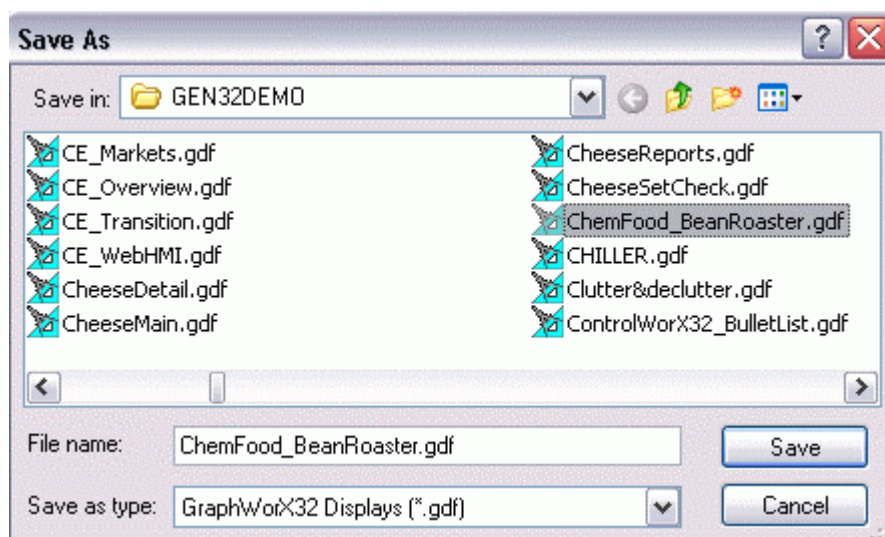

Figure 4.1. Saving the Display As a Non-VBA File
2. After you have either created a new display file or opened an existing file, select **Save As** from the **File** menu. The **Save As** dialog box opens, allowing you to specify the name and location of the file you are about to save. Type a name for the new file in the **File Name** field. It is important that, when saving your file, you select "GraphWorX32 Displays without VBA (*.gdf)" in the **Save as Type** field, as shown in **Figure 4.1**, because the Web Publishing Wizard does not support Microsoft Visual Basic for Applications (VBA). Click the **Save** button to save the current file.